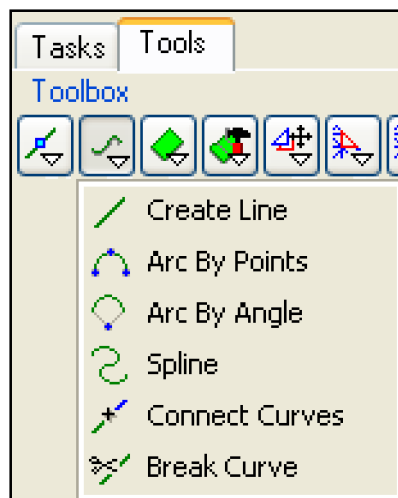

Figure 219: Toolbox - Create curve
3. Select the option from the pull down menu, shown in Figure 219 that corresponds to the curve creation method you plan to use.